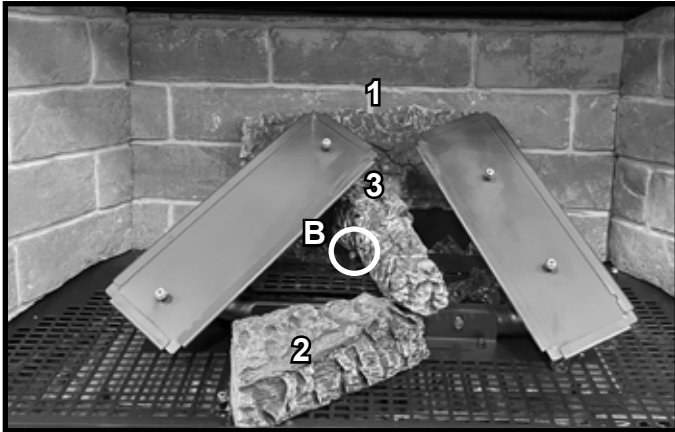

Figure 6 Log #3 Installed
**LOG #3:** Position the narrow end of Log #3 on the flat spot of Log #2. The other end of Log #3 will contact Log pin B and it will make contact with Log #1. See Figure 6.